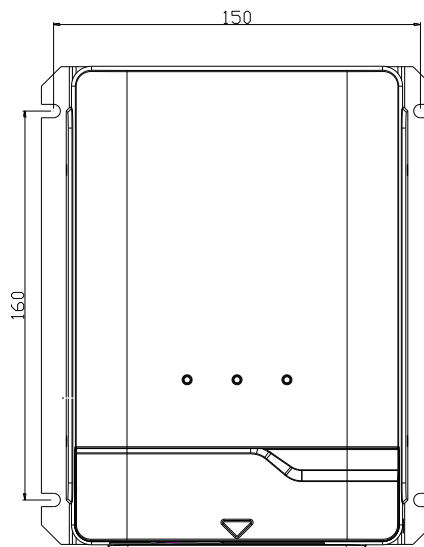

Figure 3-2 Lock Hole
- Ensure the controller is flush on mounting material. Drills the holes based on the lock hole requirements. See Figure 3-2; lock hole size: 160*150mm, 4* ϕ 5.5.